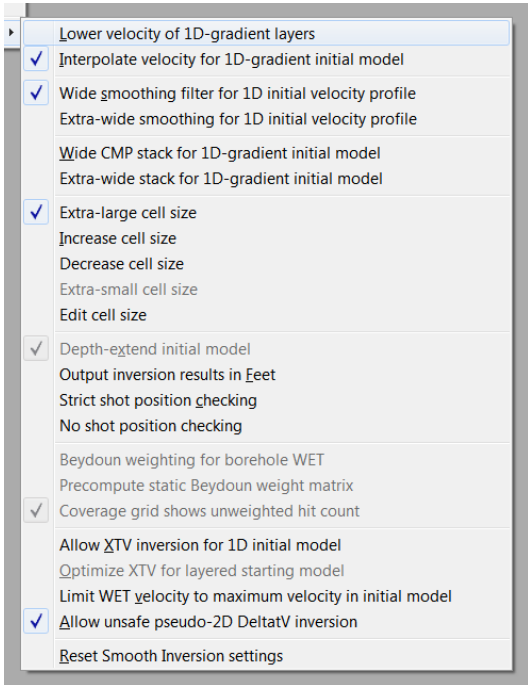

Fig. 9 : Smooth invert (Smooth inversion Settings)
- Setup other settings in *Smooth invert|Smooth inversion Settings* as in Fig. 9